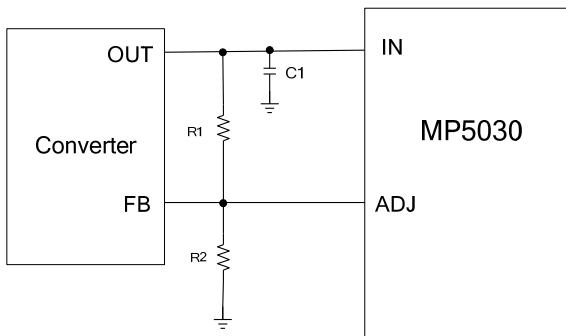

Figure 4: ADJ Configuration
Figure 4 shows the typical ADJ usage. The ADJ sink current capability is 500 μ A. The feedback current through R1 must be less than 500 μ A. Calculate R1 with Equation (1):